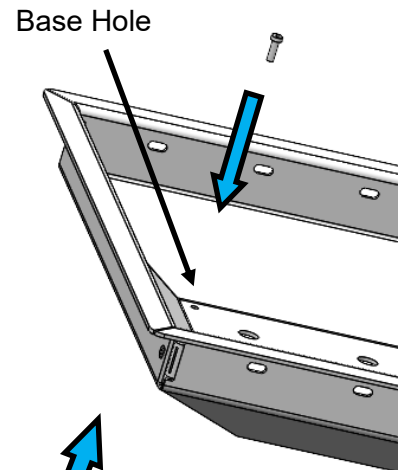

Fig. 2
- Take 1x pre-formed leg and 1x M5x16 screw, feed the screw through the hole in the base of the fire pit. Offer up the threaded section of the leg and engage screw thread. At this stage only hand tighten.(See Fig. 2.)